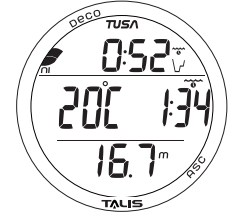

Fig. 94 - FREE DIVE MAIN
**FREE Dive Main**, information includes (Fig. 94) -